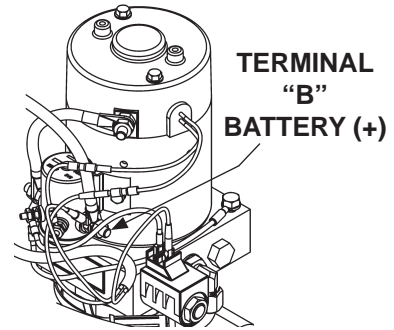

FIG. 50-1
1. Use voltmeter to verify power is being supplied to solenoid terminal "B". Recharge the battery if voltmeter indicates less than 12.6 volts (FIG. 50-1).